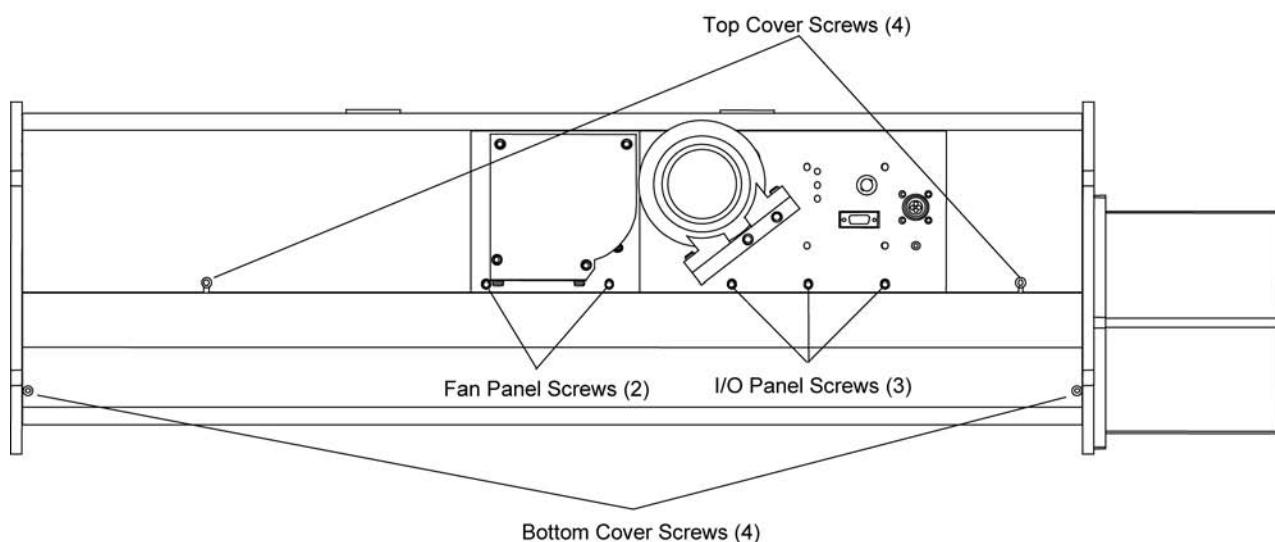

Figure 8-16
2. Loosen the four screws fastening the top cover of the Nephelometer and remove the cover (Figure 8-16).
- ❑ The more difficult method is to pry off the bottom cover without removing the I/O panel and the fan panel. Unscrew the four bottom cover screws (Figure 8-16). *Carefully* remove the bottom cover, working alternately at both ends. Pry the edges of the cover apart, and ease the cover away from the body of the Nephelometer.
- ❑ The easier method takes more time. After removing the I/O panel, the fan panel and the end plate, slide the bottom cover off the body of the instrument. Using Figure 8-16 as a reference: